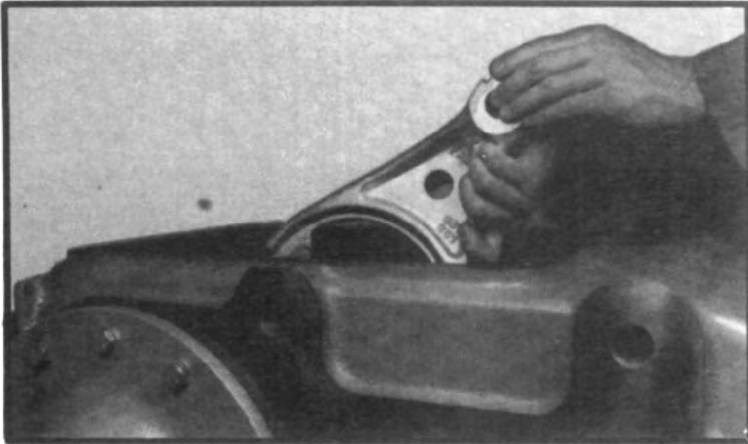

Fig. 23
13. Remove shift fork from inside case, (See fig. 23.)